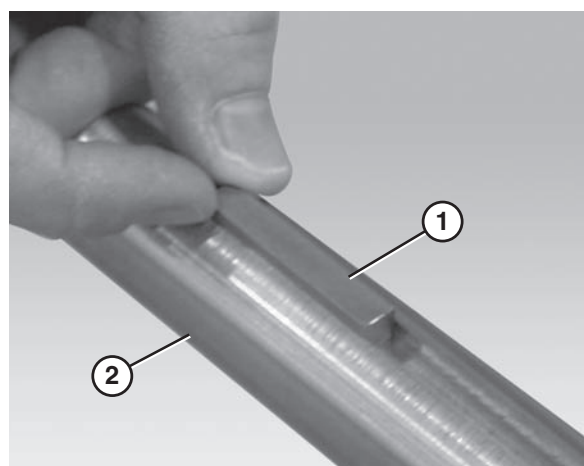

Figure 10
1. Insert the drive spindle key (Figure 10, item 1) into the drive spindle keyway (Figure 10, item 2).